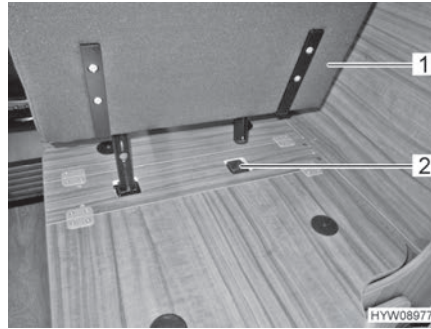

Fig. 19 Place the attachable seat in the holder
- Place the attachable seat (Fig. 19,1) in the holder (Fig. 19,2).